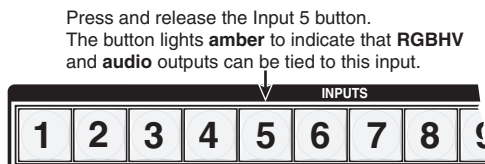

Figure 3-5 — Select an input
3. Press and release the input 5 button (figure 3-5).